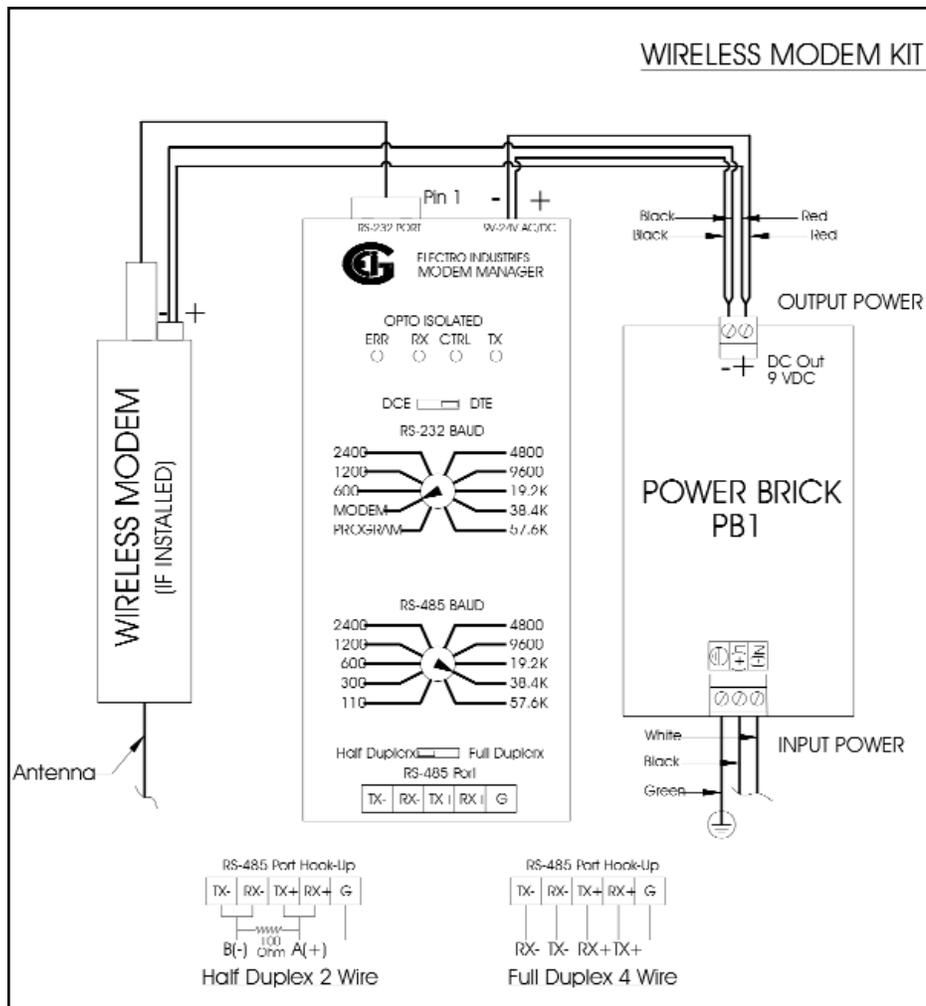

Figure 2.3: Wireless Modem Wiring
6. Follow the **wiring diagram** to attach the **RS485 Port**, shown in Figure 2.3. Remove **Case Sealing Plugs** to route external cables where necessary.
Figure 2.3 shows the **typical settings** for a **Nexus RS485 connection**. The RS485 Baud and Half Duplex/Full Duplex settings may be changed to fit your requirements.
- Follow the **wiring diagram** in **Figure 2.3** to connect the **Input Power** and to connect to any **RS485 Port** of a **Nexus meter**. The Input Power cable is connected to a 120V outlet. A **Half Duplex 2 Wire** configuration (at lower left) is used for a **Nexus RS485 connection**. Other IED devices may require a Full Duplex 4 Wire RS485 configuration as shown on the right.